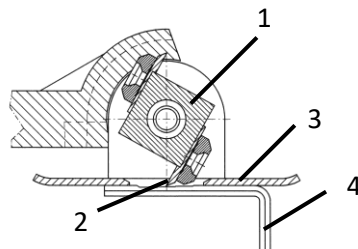

Fig. 7: Knife adjustment
- > Replace the knife (2 – Fig.7) if necessary.
- > Turn the cylinder (1 – Fig.7) so that the knife protrudes at maximum through the guide plate (3 – Fig.7).
- > Place the Allen wrench (4 – Fig.7) on the guide plate so that the notch with the desired cutting depth is under the knife.